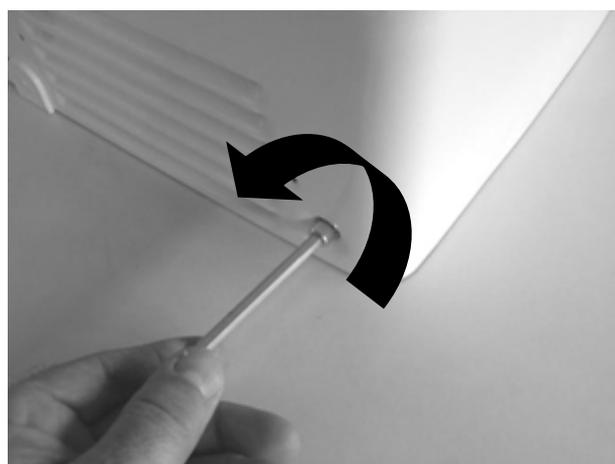

Fig.2
2. Unscrew the mounting screws to allow disassembly of the body from the hand dryer base using the special key provided (fig.2).